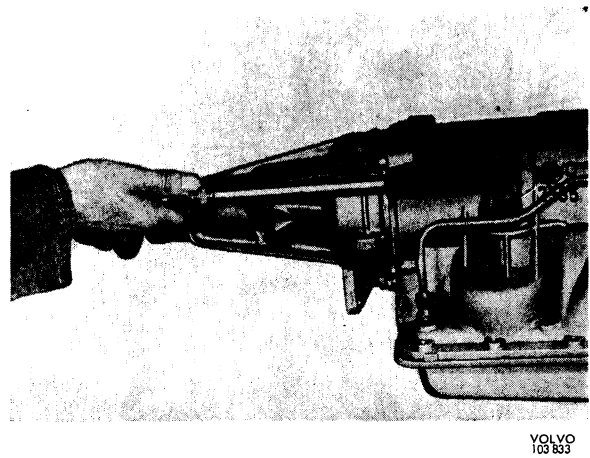

Fig. 4-66. Adjusting rear brake band
2. Use the special socket SVO 2535 and connect the torque wrench to the adjusting screw, see Fig. 4-66. Tighten the screw to 1.4 kpm (10 lb.ft). Back off the adjusting screw one turn.